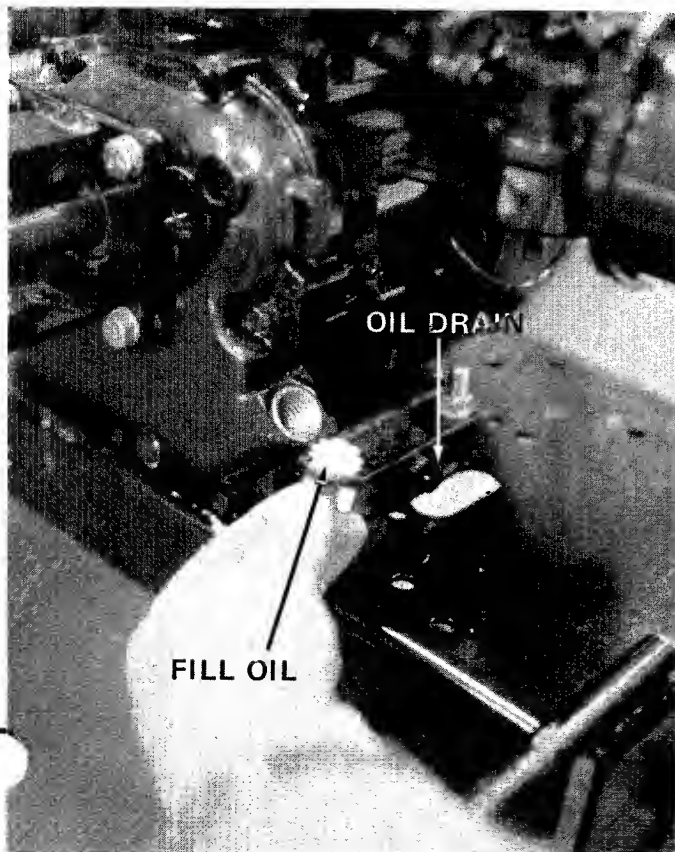

FIGURE 17
Change oil every twenty-five (25) operating hours or sooner if equipment is operated in extremely dusty or dirty conditions. See figure 17.